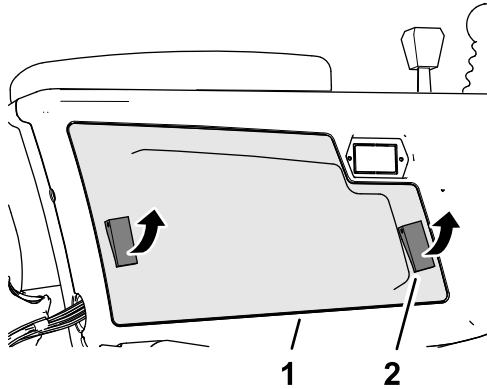

Figure 86
2. Open the 2 latches that secure control-arm cover to the control arm, and remove the cover (Figure 86).